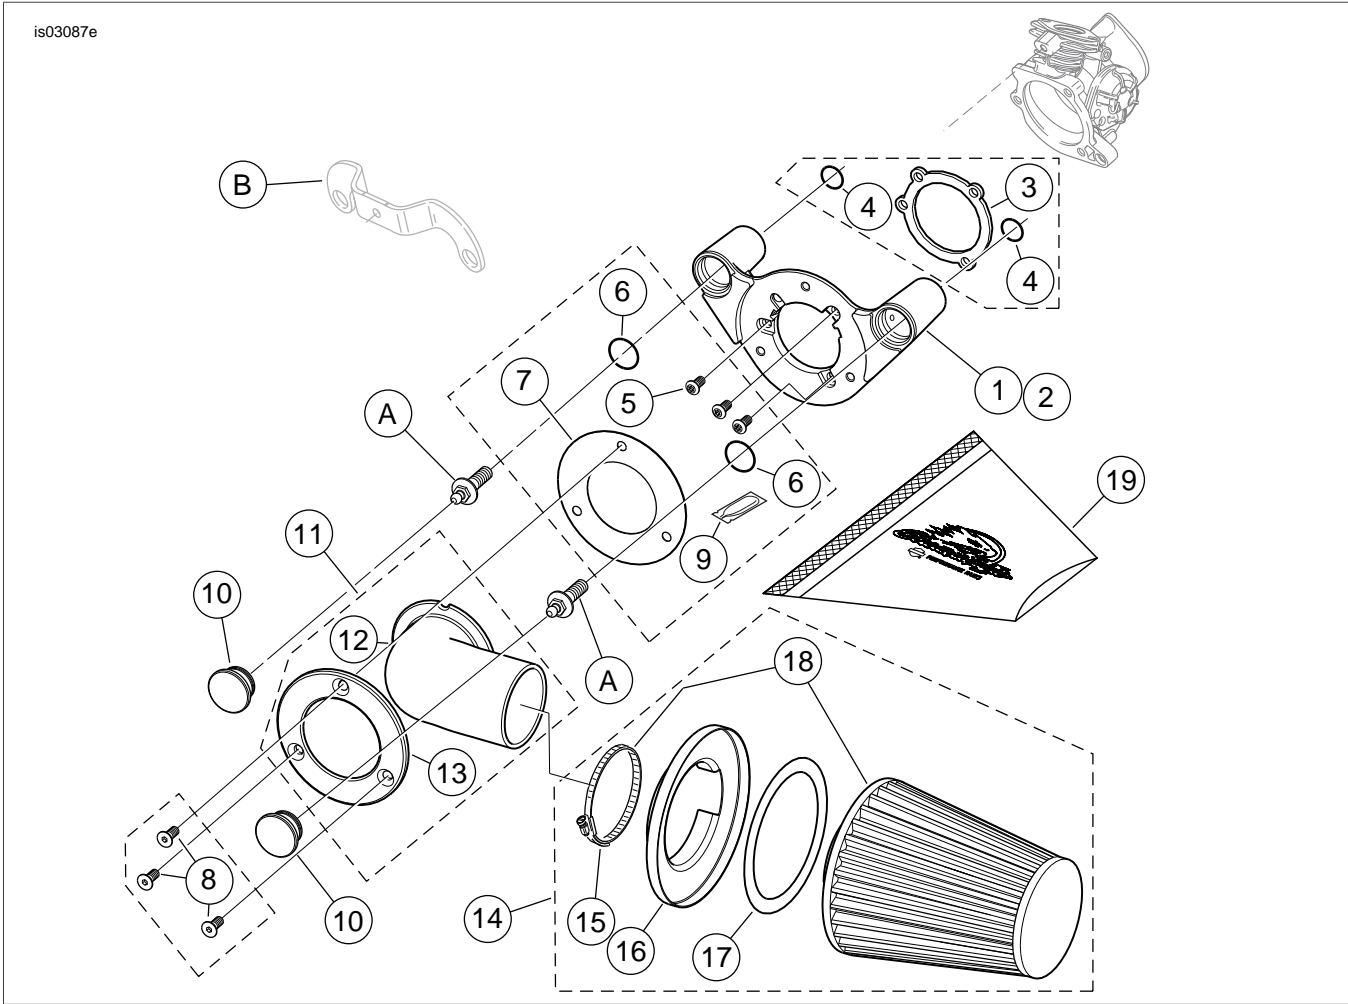

Figure 1. Service Parts: Air Cleaner Kit
See Figure 1 and .
2. Remove the air cleaner backplate following the instructions in the service manual. Retain the two breather screws (A) removed from the backplate (see Figure 1). The remaining parts can be discarded.
3. See Figure 1. Remove and discard induction module bracket (B).